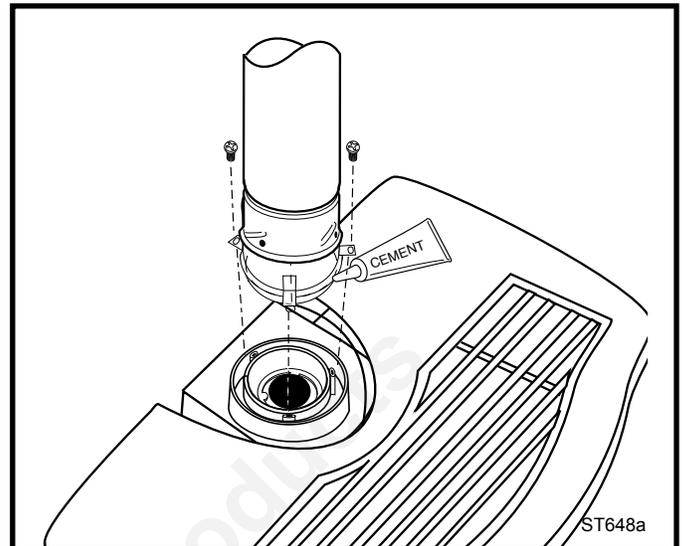

**Fig. 19** Connect the inner starter with the next section of inner vent pipe.
- Drill three pilot holes into the Inner Starter and secure the assembly with three sheet metal screws. (Fig. 19)